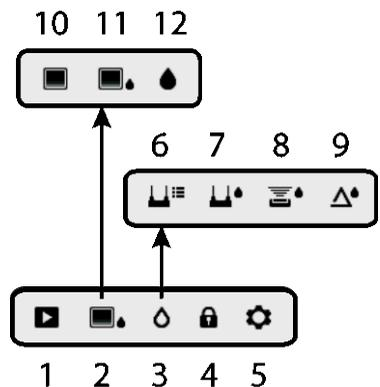

Fig. 4-2 Menu Icons
The Menu structure is outlined below and covered thoroughly in subsequent sections of this User Manual. The center Select button and the four (4) Navigation buttons are used to access and program the modes of operation available from the menus. Refer to Fig. 4-2.
Icons 1 through 5 in Fig. 4-2 make up the **Main Menu**. Press the Select button to open the Main Menu:
2. Image modes (items 10 to 14): IR, IR + IGM Moisture, Moisture only
Icons 6 through 9 in Fig. 4-2 are available in the **Moisture Mode Menu**. Press icon 3 to view these Moisture modes. A blue dot is shown to the left of the pin icon (7) or the pinless icon (8), depending on which is selected.
Icons 10 through 12 in Fig. 4-2 are available in the **Image Mode Menu**. Press icon 2 to view the Image Mode menu.